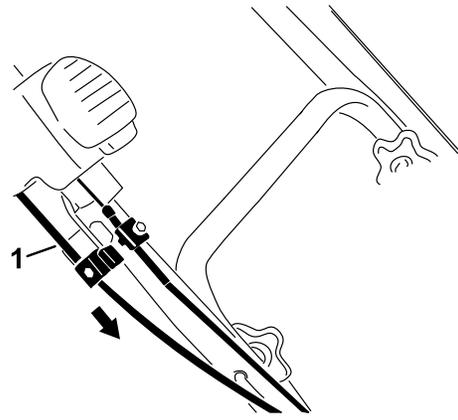

Figure 34
- Hold the discharge chute in the straight-ahead position, pull the lower cable casing downward until you remove the slack in the cable, and tighten the screw on the lower cable clamp securely (Figure 34).